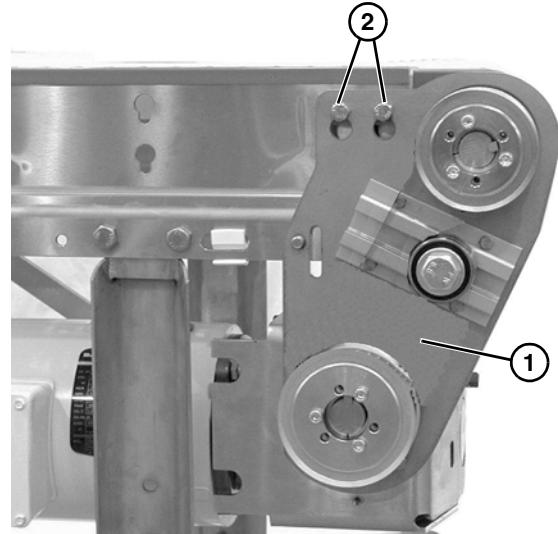

Figure 6
4. Attach mount assembly (Figure 6, item 1) with the two bolts (Figure 6, item 2).